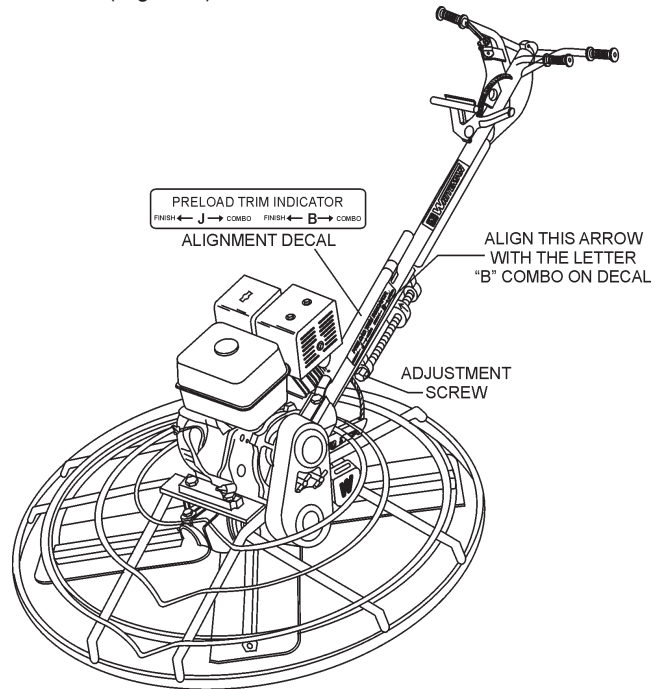

Figure 9. Cable/Yoke Attachment
2. Locate the adjustment screw on the underside of the handle tube (Figure 9).